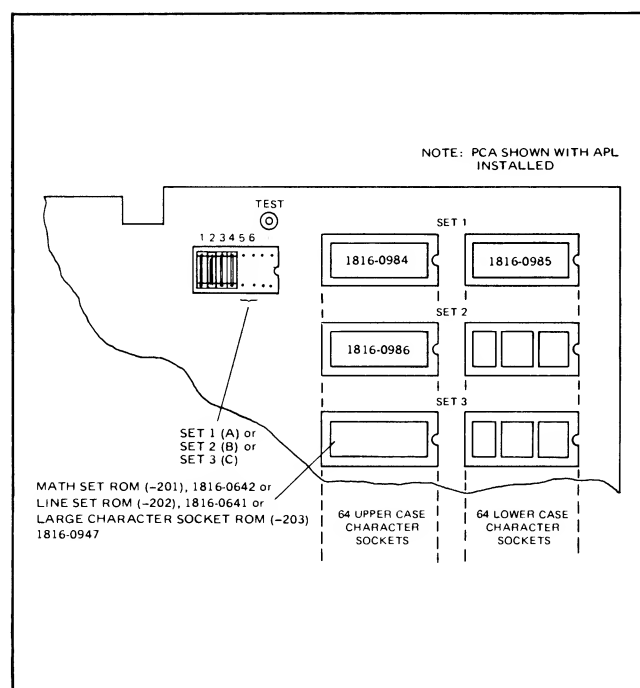

Figure 7-35. Display Enhancement PCA Jumper and ROM Socket Locations (HP 2641A)
- Figure 7-35 shows the jumper and ROM socket locations for the Display Enhancement PCA.